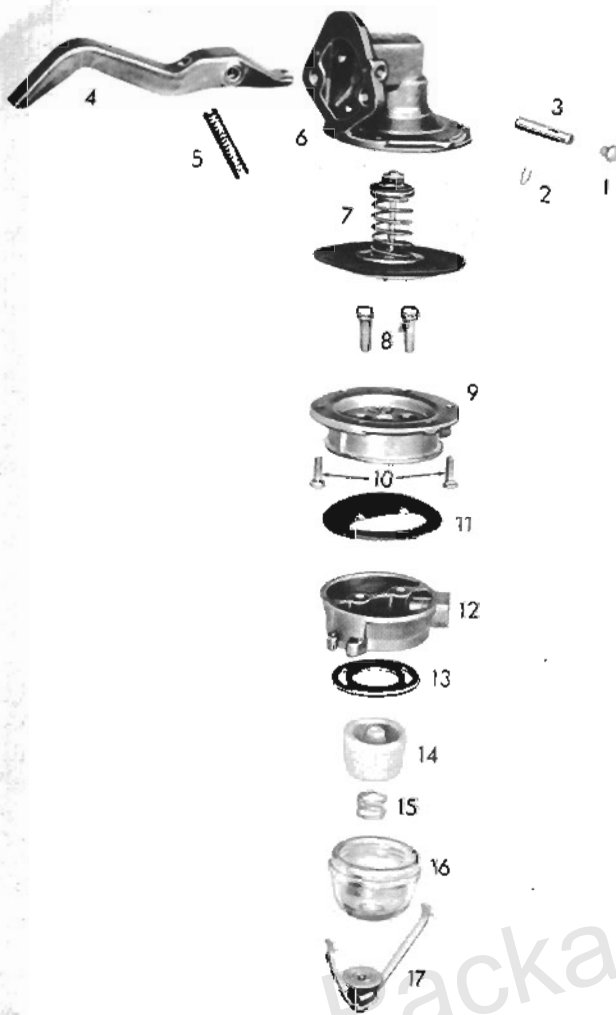

FIG. 9
File a locating mark on the edges of the valve housing (9, Fig. 9) and pump body (6). Remove the diaphragm attaching screws (10).
Install the new diaphragm assembly (11, Fig. 9) into the pump body (6). Insert the cam lever (4) and hook the shaft of the diaphragm assembly (7). Install the cam lever pin (3), plug (1), and pin retainer (2). Install the cam lever return spring (5).